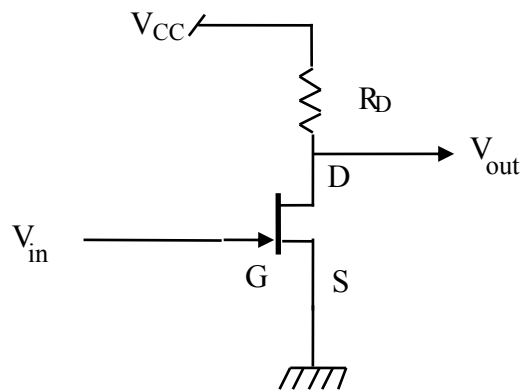

Figure 8.2 Common Source Amplifier Stage
A JFET common-source amplifier stage is shown in Fig. 8.2. To keep things simple we are supposing that the input signal has a dc value of 0 V, so the desired quiescent gate voltage ($V_{GS}=0$) is achieved without the need for a dc blocking capacitor and a voltage divider like we used for our bipolar common-emitter amplifier. A small change in the input voltage δV_{in} causes a change in the drain current equal to $g_{fs} \cdot \delta V_{in}$, and this current
1. (3 points) Consider the common-source amplifier circuit of Fig. 8.2. Suppose you build this circuit with the JFET used to generate the output characteristics shown in the 2N4416A data sheet, lower right plot on page 7.3. If we use $V_{CC} = 9\text{ V}$, and we want $V_{DS} = 3\text{ V}$ at $V_{GS} = 0$, what value of R_D should we use? What will the value of I_D be? What value of R_D should we use if V_{CC} is 18V, and what will I_D be in this case? It will be helpful to draw several load lines over the characteristic curves for different values of R_D and V_{CC} . These are straight lines that represent the current through R_D as a function of V_{DS} . The load line should go through $I=0$ when $V_{DS} = V_{CC}$, and through $I = V_{CC}/R_D$ when $V_{DS} = 0$. The operating point is where the JFET output characteristic intersects the load line.
Construct the common-source amplifier shown in Fig. 8.2. Use two 9V batteries in series for the drain voltage source. To reduce pickup of 60 Hz ac signals and other interference, make the circuit as compact as possible, for example as shown in Figure 8.5 below.